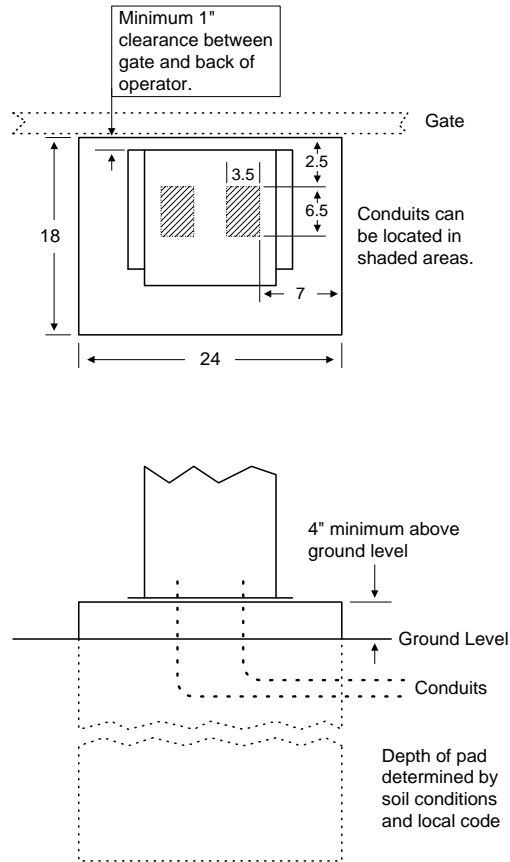

Figure 6
1. Construct a form for the mounting pad according to the specifications shown in figure 6. Be sure to level the top edge of the form and that the top of the form is a minimum of four (4) inches above ground level. We suggest that you contact the local building department to determine the required depth of the pad since soil conditions and code requirements vary from city to city.
2. Set conduits, reinforcing bars and/or wire mesh if required. The number of conduits is determined by the application requirements. We suggest using a minimum of four (4) conduits. 1-High voltage power lines; 2-Low voltage control lines; 3-Loop lead-in wires (open loop); 4-Loop lead-in wires (reverse loops). **See SECTION 2.** Set additional conduits as required for your application. NOTE: If conduits are not set in the pad, they can be routed to a J box where connections to the operator can be made after it is installed. There are three (3) $\frac{1}{2}$ -inch knockouts and one (1) $\frac{3}{4}$ -inch knockout on each side of the operator for this purpose.